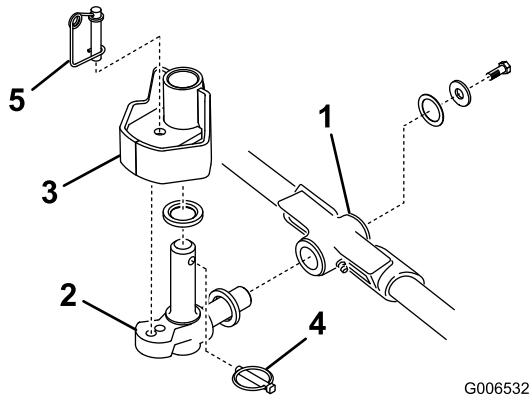

Figure 12
1. Insert a thrust washer onto horizontal shaft of pivot knuckle as shown in Figure 12.
2. Insert the horizontal shaft of the pivot knuckle into the mounting tube of the carrier frame (Figure 12).
3. Secure pivot knuckle to carrier frame with a thrust washer, a flat washer, and a flange-head cap screw (Figure 12).
4. Insert a thrust washer onto the vertical shaft of the pivot knuckle (Figure 12).
5. If removed, insert the vertical shaft of the pivot knuckle into the lift-arm pivot hub (Figure 12).
6. Insert the lynch pin into the cross hole on the pivot-knuckle shaft (Figure 12).
11. Hook the spring wire around the bottom of the steering locking pin (Figure 12).